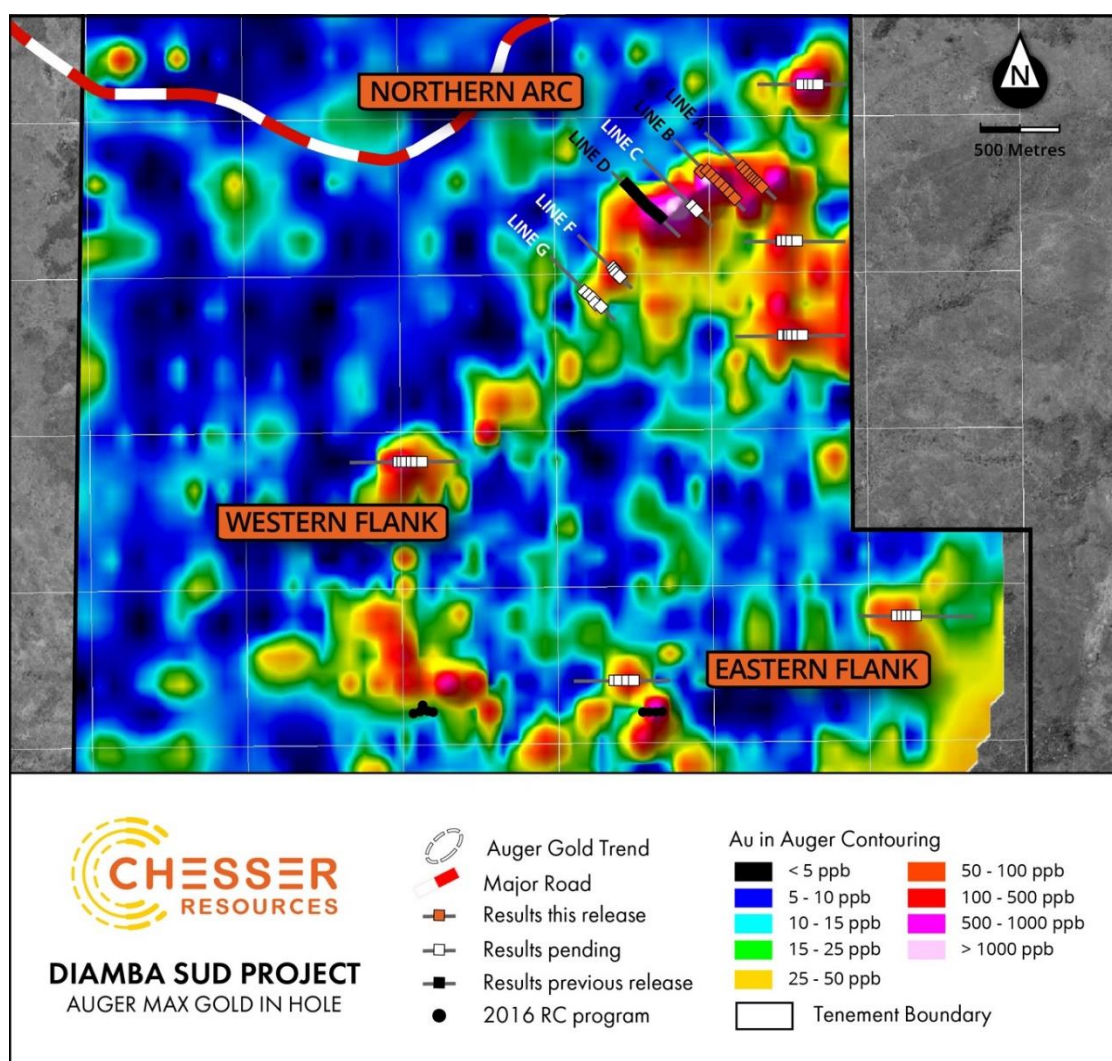

**Figure 1: Location of Chesser's projects in eastern Senegal**
**Chesser Resources Limited** ("Chesser" or "the Company"; ASX:CHZ) is pleased to announce the second set of assay results received from the Phase 1 RC drilling program at its flagship Diamba Sud Project, located in eastern Senegal (Figure 1).